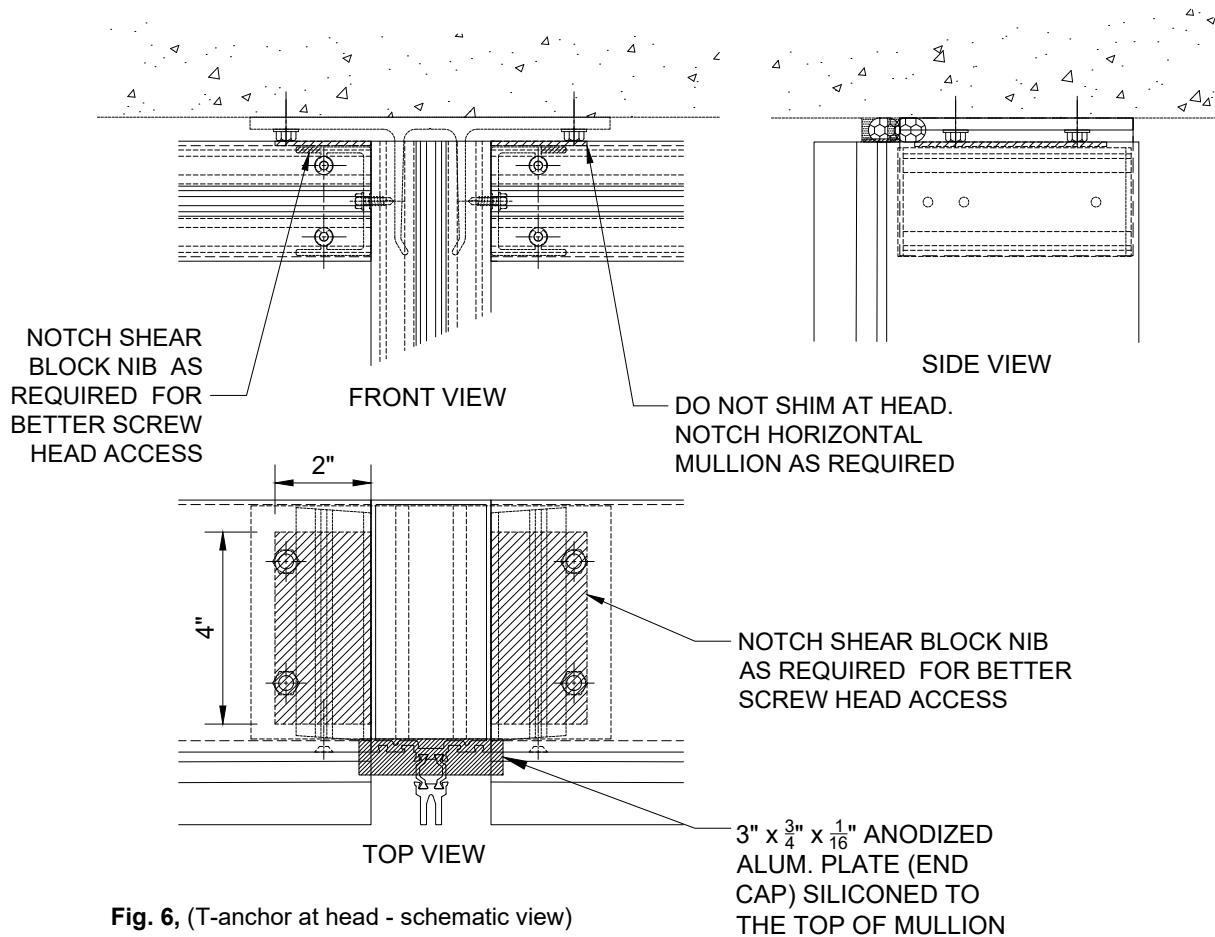
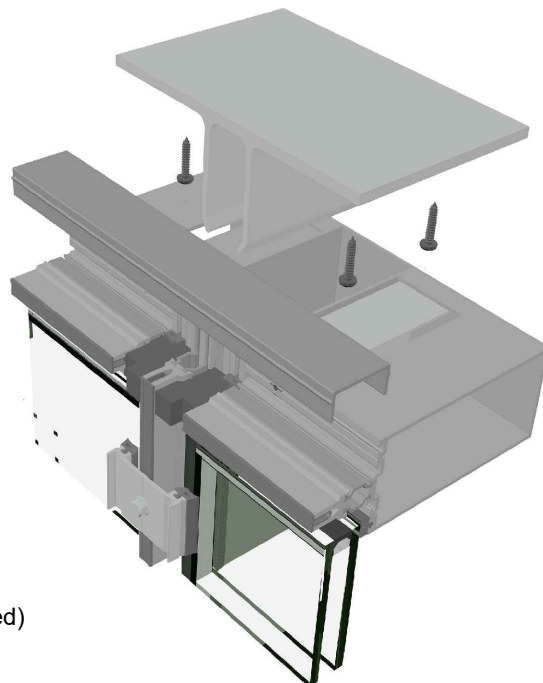

Fig. 6, (T-anchor at head - schematic view)
Fig. 7, (T-anchor at head - sequenced)
- 3.4 Check DLO every four bays to ensure correct spacing and prevent dimensional buildup. When framing members are installed, install PVC spacer around the perimeter of the frame (**Fig. 7**). Anodized aluminum plate is to be used at the head (as shown in **Fig. 6**), to apply the continuous perimeter air seal.